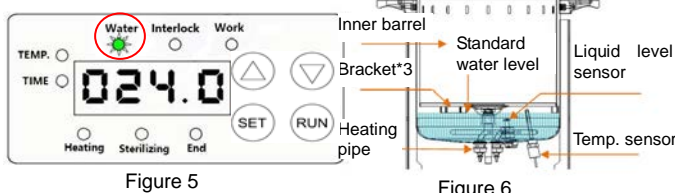
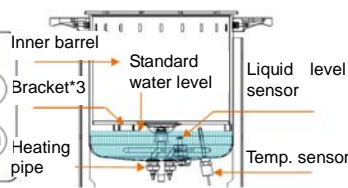

Figure 5
Figure 6
3. Take out the inner barrel, inject the tap water directly into the cylinder and add water until the water level indicator lamp on the control panel is normally ON (Figure 5). If there is too much water in the cylinder, turn on the drain valve (Figure 7) to drain the excess water (the standard water level should reach the lower edge of the three brackets in the cylinder (Figure 6). Turn the drainage knob to the OFF position after the water level is confirmed (Figure 8).